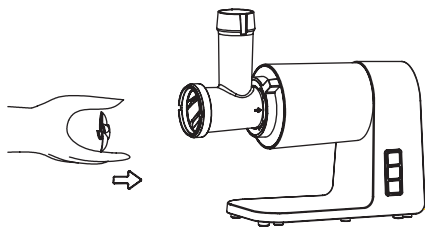

Figure 4.
3. Place the cutting blade onto the snake shaft with the blade facing the front as illustrated (fig. 4). If it is not fitted properly, the meat will not be grinded.